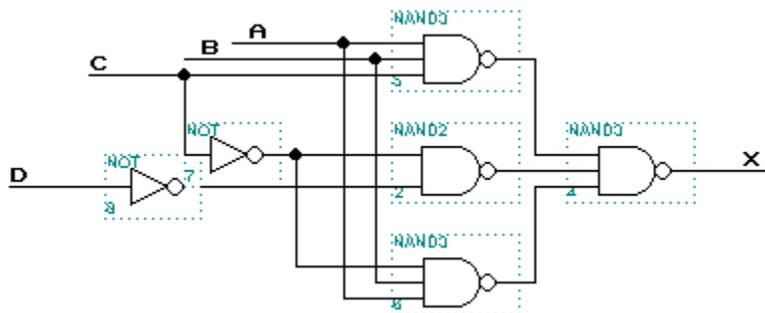

Figure 1
1. Write a VHDL model that uses concurrent signal assignments to model the circuit in Figure 1. Use the "after" clause to model the delays accurately. The NAND gates have a delay of 4ns and the inverters have a delay of 2ns. Hint: You will need to define internal signals. **Simulate the circuit in ModelSim** for the following input cases to illustrate that the delays are modeled properly. ABCD= 0001, 1111, 1101. To simplify the simulation, here are some commands you can use in the simulator rather than creating a testbench: